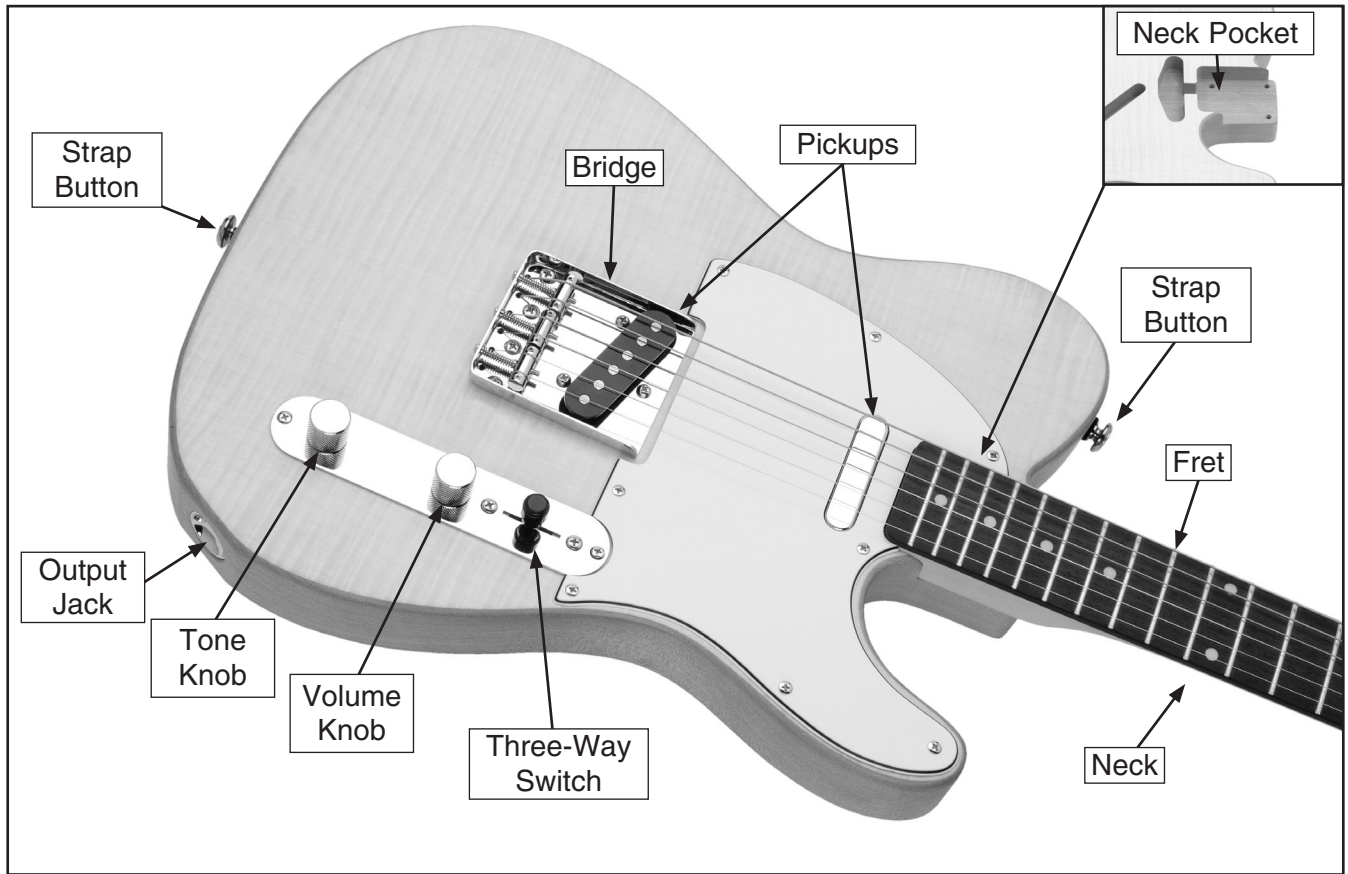

Figure 4. Model H8070 controls.
1. Mask off the neck pocket (**Figure 4**). Press the masking tape tight against the edges of the pocket so the finish does not seep under the tape.